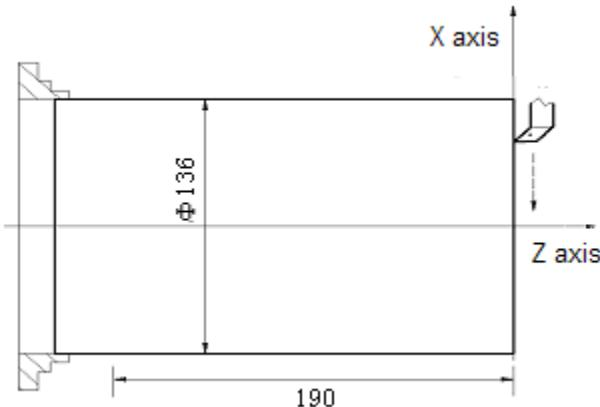

Fig.10-6
(1) Move the tool into the safe position, execute T0100 in MDI mode and on the program status page, change the tool and cancel the tool offset;
(2) Move the tool and the tool is cut along the workpiece end face, which is shown as Fig. 10-6;